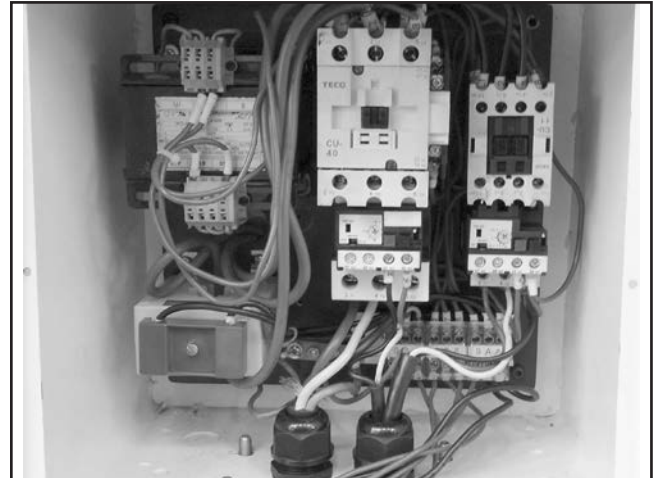

Figure 3. G0450 control box main panel, 3-phase 480V.
5. Remove the four cap screws (one in each corner) that secure the 240V main panel, then replace it with the 480V main panel from the 480V conversion kit (see **Figure 3**).